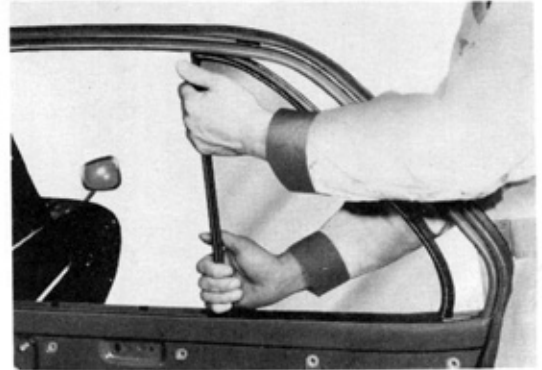

Fig.1-119 Quarter Window V3065 Glass Installation
1. Install the quarter window glass assembly onto the door frame. Coat soap and water around the quarter window weatherstrip to facilitate the procedure. Fig.1-119.